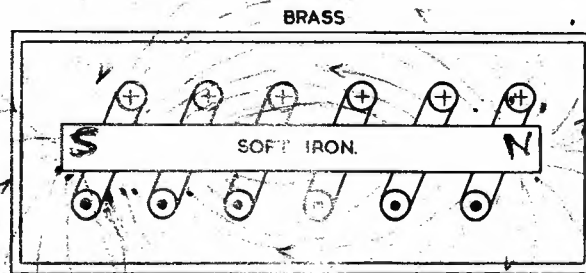

FIG. 4.
- STEP 4. Place the band of brass around the solenoid. Using iron filings plot the field pattern. Note the field pattern and direction on Fig. 4.